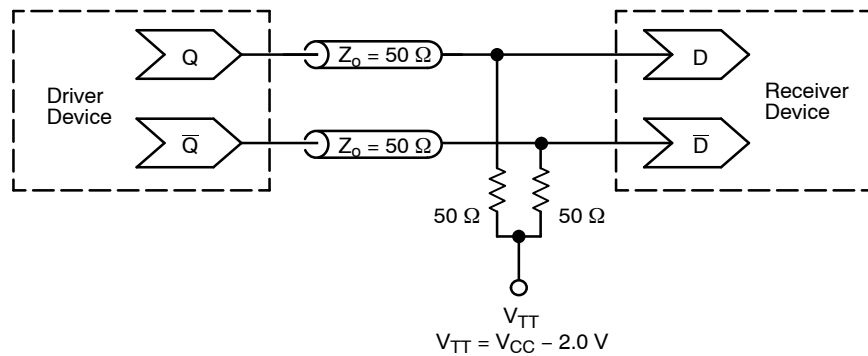

Figure 10. Typical Termination for Output Driver and Device Evaluation
2. All loading with 50 Ω to $V_{CC} - 2.0\text{ V}$ (see Figure 10).
1. Measured using a 750 mV source, 50% duty cycle clock source. All loading with $50\ \Omega$ to $V_{CC} - 2.0\text{ V}$ (see Figure 10).